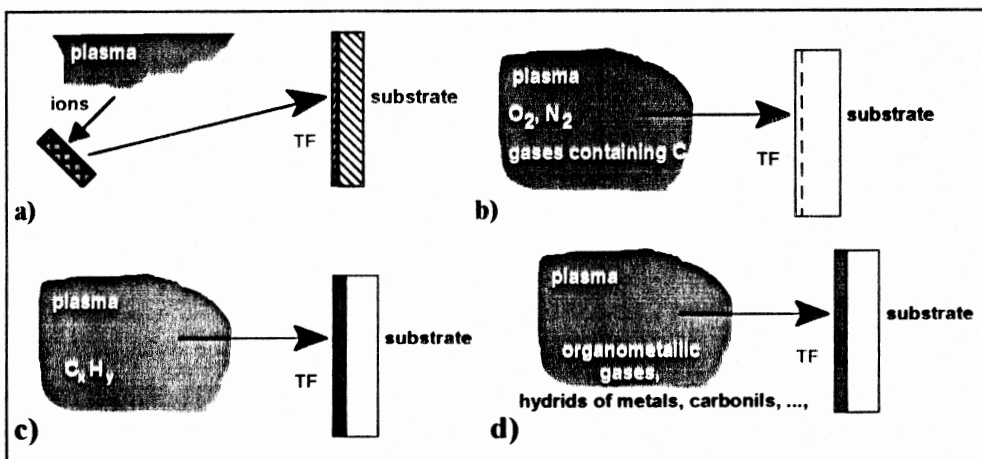

FIG. 1
1. *Transport of target material to substrate* is provided by interaction of plasma (almost ions) with target (e.g. reactive ion sputtering), sputtered atoms may undergo chemical reactions on the target or occurs in the plasma volume, and subsequent transport of product material to the substrate makes material to be deposited into a thin film (Fig. 1-a).
2. *Modification of substrate material in a plasma*, e.g. processes as plasma oxidation, nitridation or carbidization of the substrate (it depends on the operating gas: O_2 , N_2 and gases with a content of C) due to the penetration of atoms into a subsurface region may provide production of very thin layers 5 - 25 Å (see Fig. 1-b).
3. *Production of polymer films* during plasma polymerization from hydrocarbons (Fig. 1-c) due to high density of unsaturated radicals in the plasma, diffusion of the radicals to surface, followed by adsorption and migration onto the surface and bonding into thin polymer films produces many very desirable physical properties.
4. **Production of thin films by Plasma Enhanced CVD** (Fig. 1-d) is important low temperature deposition process in microelectronics, optoelectronics, micro-mechanics and sensorics. This process produces high deposition rates, good adhesion, low defect density, good covering and planarization behaviour, good electrical properties of oxides and nitrides, useful for passivation of Al-metallization structures, etc. Scheme of PECVD reactor is shown in Fig. 2.